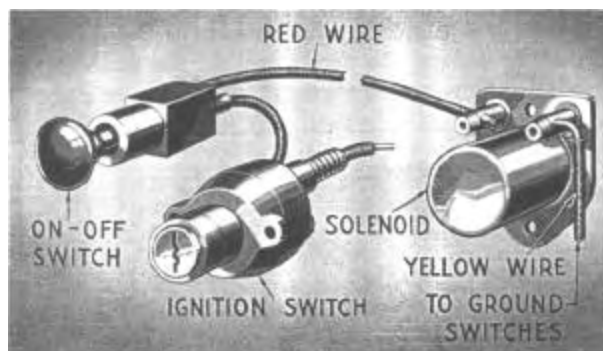

Figure 908
If the clutch is not disengaged when the accelerator control valve is back against its stop, check the ON-OFF switch to see that it is "on" (pushed in). If contact is not made, connect a wire from the relay or regulator (B) terminal to the solenoid terminal to which the red wire is attached (Figure 908). If operation is obtained, look for a poor contact in the ON-OFF switch or poor wiring from ignition switch to ON-OFF switch to solenoid.